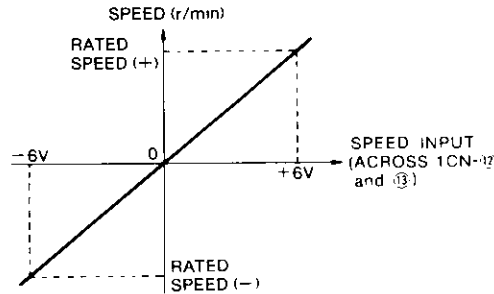

Fig. 12.1 Speed Reference Input-SERVOMOTOR Speed Ratio
(1) Speed reference input-SERVOMOTOR speed ratio (no load) (Fig. 12.1)